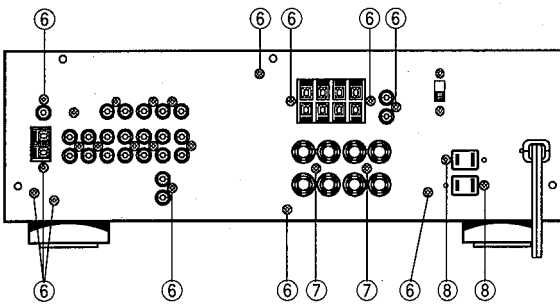

Fig. 3
- e. Remove 11 screws (⑥), 2 screws (⑦) and 2 screws (⑧) in Fig. 3.